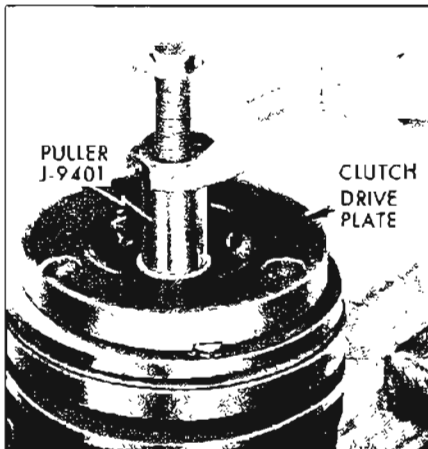

Figure 11-99—Removing Clutch Drive Plate
2. Screw threaded Hub Puller J-9401 into the drive plate hub. Hold body of tool with a wrench and tighten the center screw to remove clutch drive plate. See Figure 11-99.